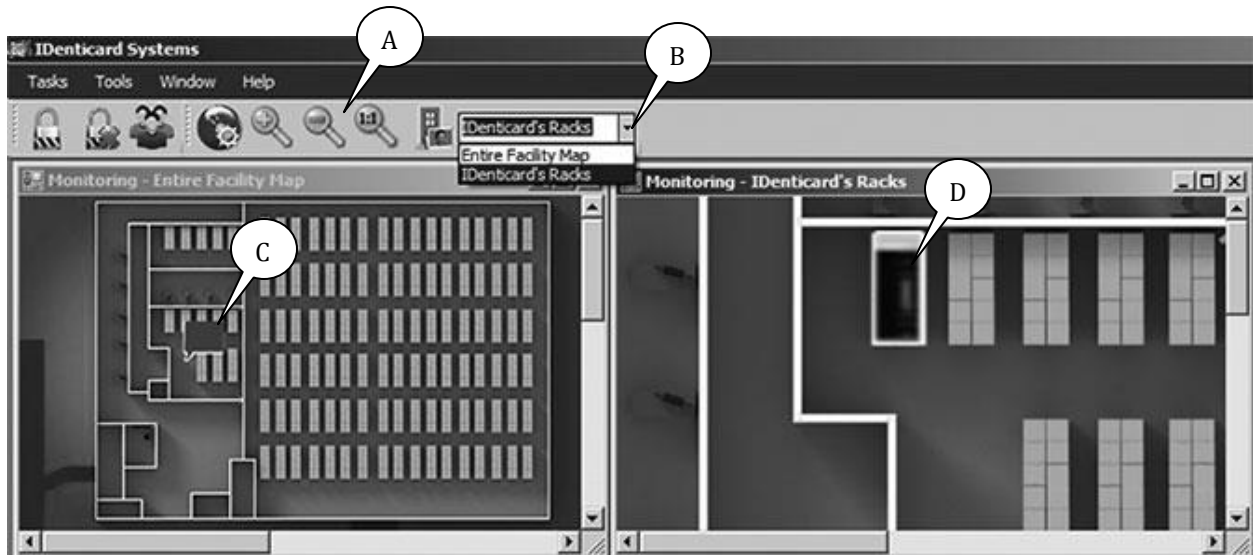

Figure 3.2.2
In Figure 3.2.2, key features are marked here by lettered call-outs. Use the buttons on the tool bar (A) to increase or decrease the size of the active map. The active map is the map last clicked. If you don't see these buttons, click on a map. Use the drop-down menu in the tool bar (B) to switch from one map to another. On dynamics maps, view indicator icons (C) and rack icons (D).